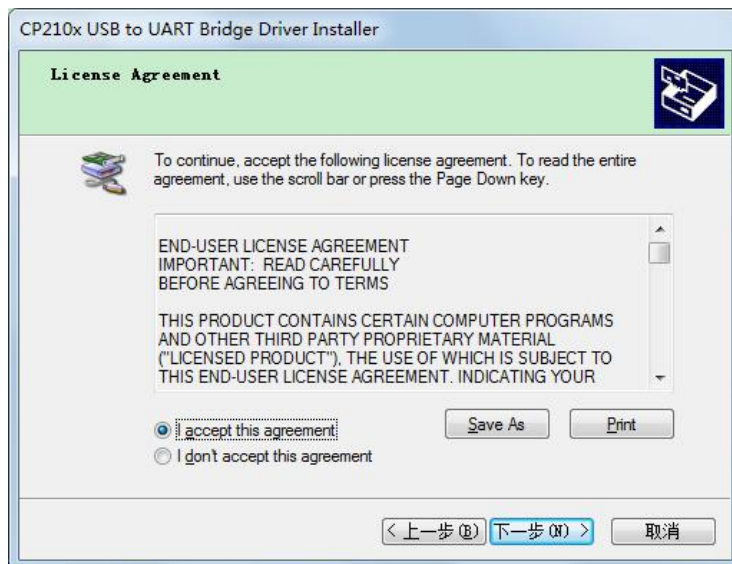

Figure 4-7 Agreement selection window
6. Click the button "Close" in Figure 4-5 to complete the module software installation, and then click the button "Next" in Figure 4-6 for USB driver installation, at which time, an agreement selection window as shown in Figure 4-7 will pop up.